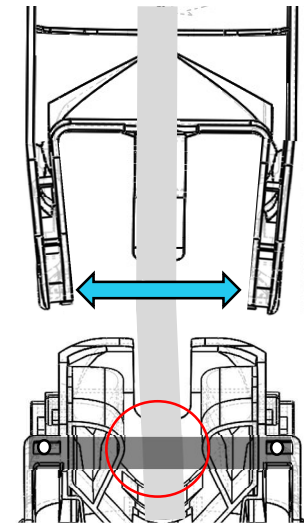

Figure 5F
- D. Re-assemble Upper Arm to Top Hub by pinching Hinge Pin together while firmly pushing Upper Arm onto knuckle until it pops into place. **NOTE:** First route Arm hose under the hinge plate. New Arm has flanges angled inward that will need to be spread apart a little while sliding onto the knuckle. Refer to Figure 5F.